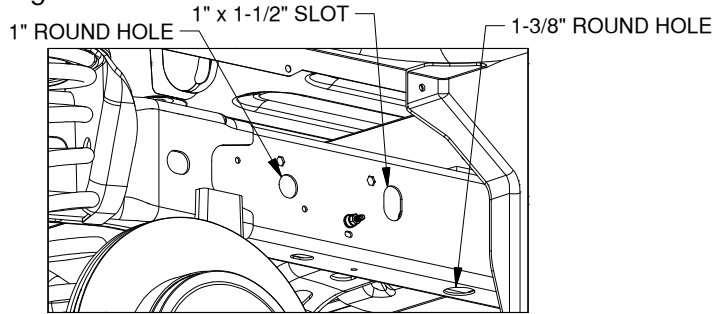

Figure B1: View looking into driver side wheel well.
- 1. Prepare for hardware installation.** Start by locating four 1/2" x 1-1/2" carriage bolts, four locking straps, two circle frame spacers, two oval frame spacers, four bolt retainers, and four fish wires. Identify the 1" round hole, the 1" x 1-1/2" slot on the outside of the frame and the 1-3/8" hole on the bottom of the frame behind the axle where the hardware will mount, see Figure B1.
- 4. Repeat for the rest of the holes.** Using the method in Steps 2 and 3 install the three remaining bolts into the frame. Refer to Figure B1 for hole and slot locations.